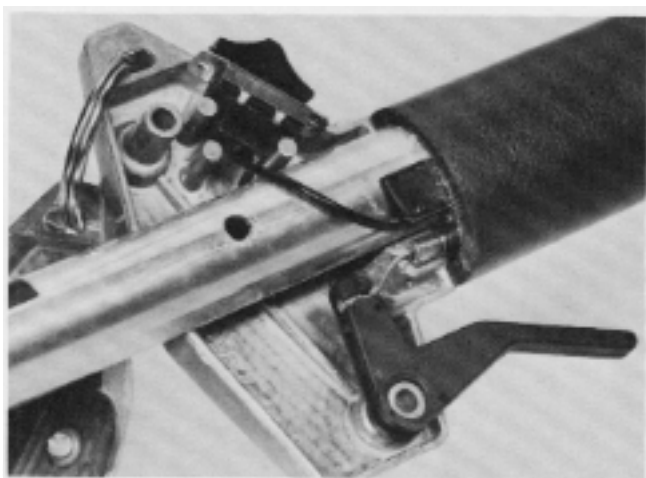

Figure 99
2. Remove the two screws and locknuts securing the throttle control case halves. Separate and remove the halves. See Fig. 99.
7. Slide the throttle cable through the grip and install the cable as shown in Figure 99.